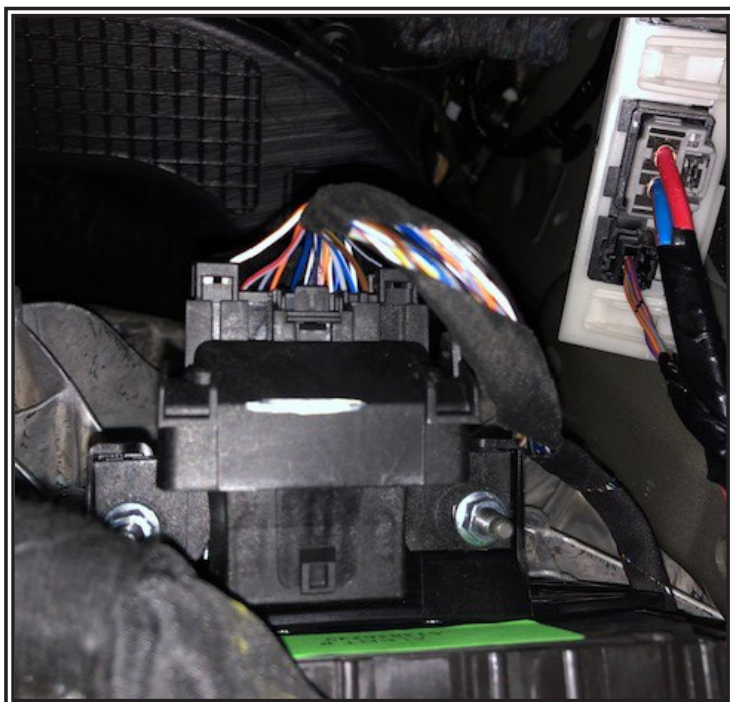

Figure 10
Step 3. Locate connector shown in FIGURE 10 on the back of the gateway module.